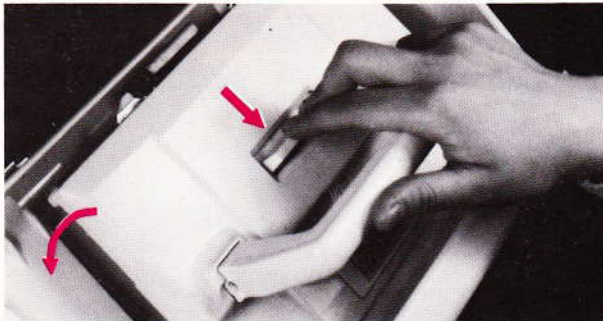

Fig. 238
- Place the lace carriage in the lid. Press on the lace carriage by pushing and holding the handle. Release the handle, the lace carriage is locked (fig. 238). Press on the catch and lower the handle.